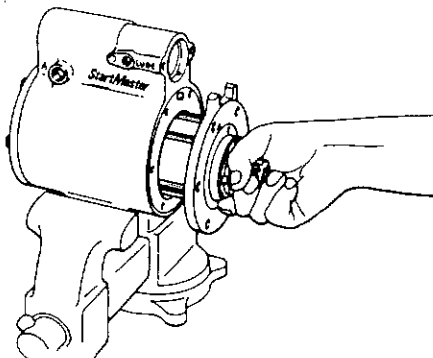

Figure 6.4
6. Grasp the rotor pinion (44) and slide the rotor (30) and lower end plate assembly from the air motor casing (35) as shown in Figure 6.4. Remove the rotor blades (31) and discard the end plate seals (36).